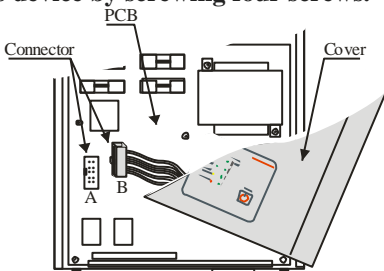

Fig. 4
- **Connect the plug B to A connector according to Fig. 4 and mount the cover of this device by screwing four screws.**
- Thread the battery wires through the hole in the box pos.2
5. **Connect the plug B to A connector according to Fig. 4 and mount the cover of this device by screwing four screws.**